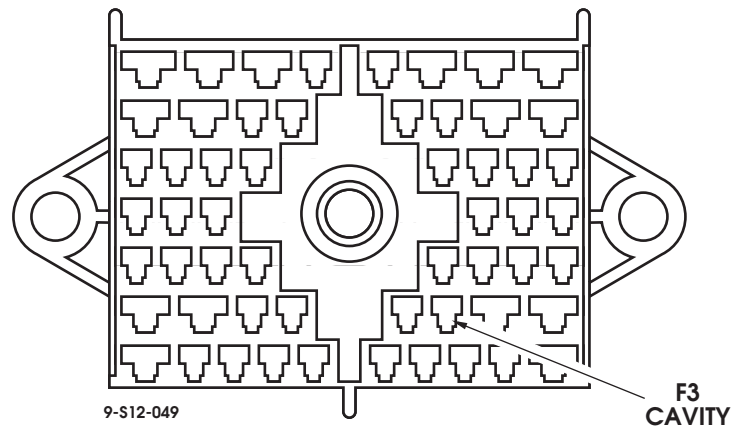

Figure 4: F3 Illumination circuit location in the 56 way connector (looking into the vehicle side).
15. Remove the 56 way console connector from the mount bracket on the engine cover and remove the lock tab. Locate the purple wire in the F3 position which is an illumination circuit wire that must be removed to add the unterminated purple wire from the main harness (See Figure 4). Cut the terminal off the F3 wire and use the supplied terminal to splice the F3 wire and the unterminated wire of the main harness together. Insert the pair in the F3 position, install the lock tab and install the 56 way connector in the bracket.